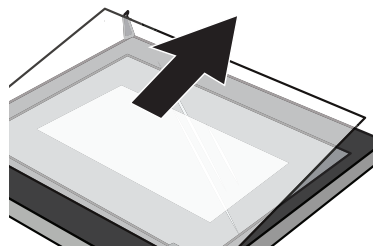

Fig. 5
5. Push the glass into the position indicated by the arrow in Fig. 5. Gently pull the glass out of the frame.